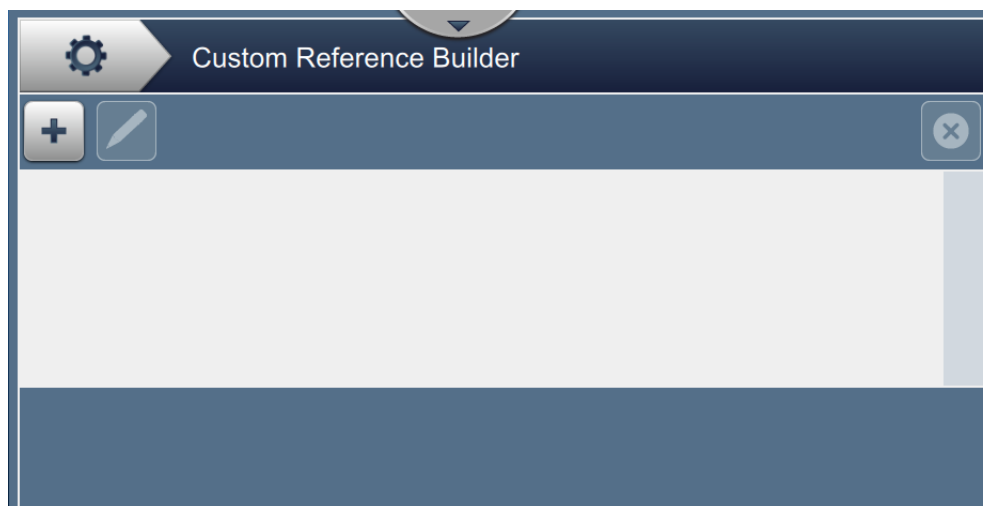

Figure 6-7: Custom Reference Builder
1. Touch the  button from the Tools screen. The Custom Reference Builder screen opens as shown in the Figure 6-7.
2. Touch the  button as shown in Figure 6-7 on page 6-11 to create a new custom field. The Reference Name screen opens.